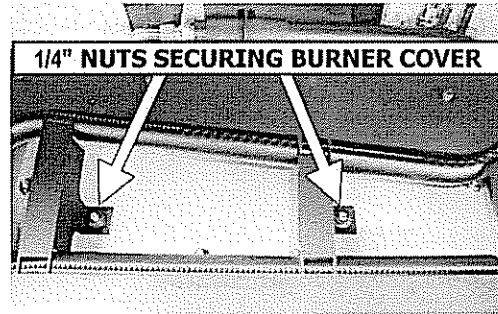

Figure G-3
5. Secure the burner cover with the remaining (2) nuts. Figure G-3.